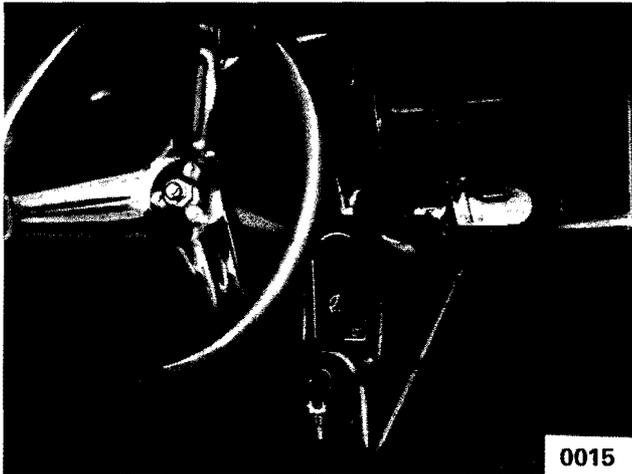

FIG. 2
STEERING (FIG. 2, ITEM 1)
THROTTLE (Fig. 2, ITEM 2)
BRAKE (FIG. 2, ITEM 3)
1. **MANUAL START** - Set parking brake and turn ignition switch (Fig. 2, Item 4) to "on" position. At the rear of the vehicle, pull choke lever to "on" position and pull the handle on the rope rewind starter until a slight resistance is felt then pull firmly. Do not pull the starter rope to end of travel and prevent it from snapping back. It may be necessary to repeat starting action several times if the engine has not been run for some time. To avoid flooding the engine with fuel, pull twice with choke on, then return choke to off position, and repeat starting action.